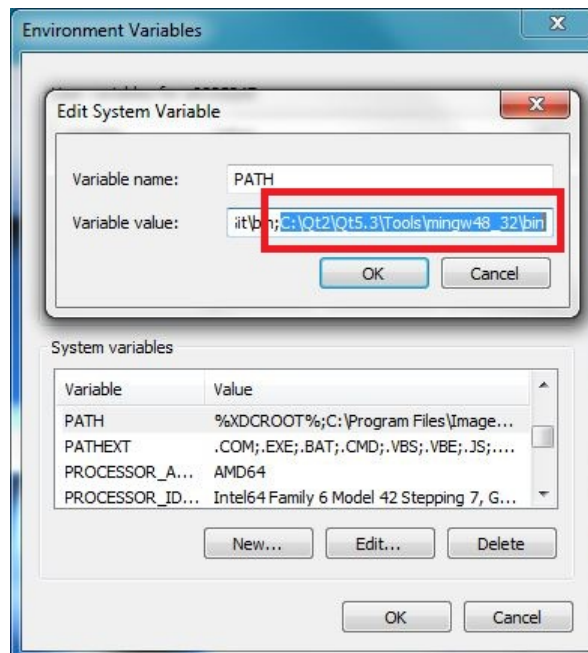

Figure 4-12. MinGW Directory Added to the PATH Variable
- Insert the path to the MinGW compiler binary directory in the PATH variable as shown in Figure 4-12, then click the **OK** button. **Note:** Make sure that the entries are separated by a semicolon.